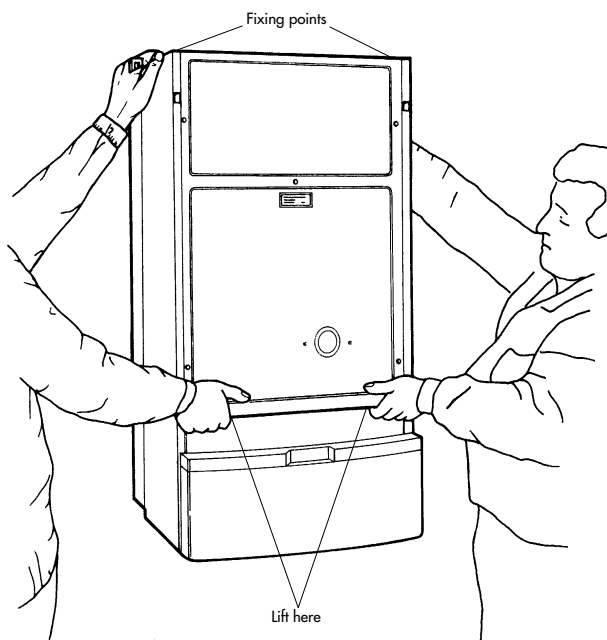

Fig. 15
- 5.3 Lift boiler as shown in fig. 15 onto the top studs and fit supplied nuts and washers hand tight.